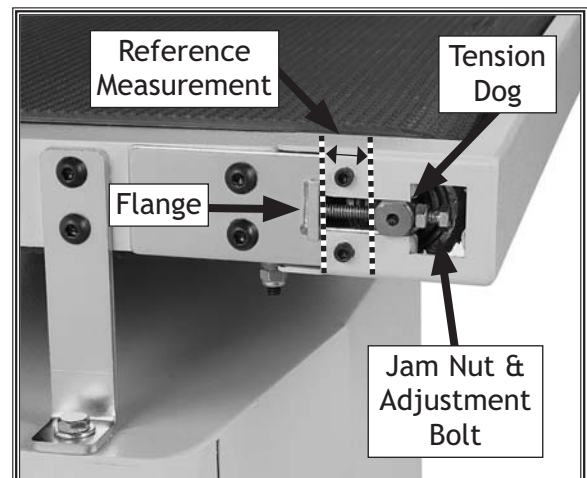

Figure 28. Conveyor tension adjustment bolt (one side shown).
1. On both sides of the conveyor, measure and record the reference measurement between the tension dog on the adjustment bolt and the conveyor bracket flange, as shown in Figure 28.